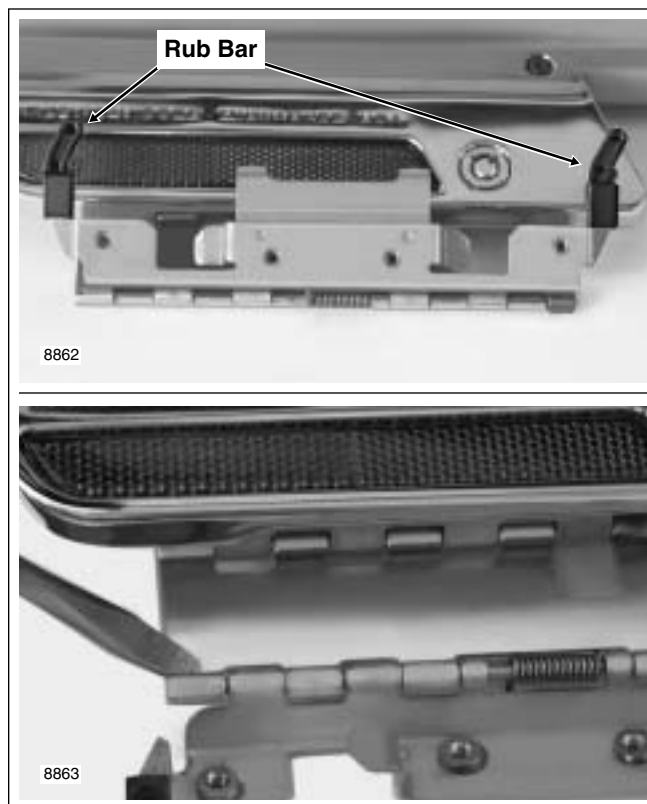

Figure 1. Lid Right Side Up With Latch on Near Side
8. Raise latch slightly and rotate hinge on inboard side so that it is topside with the two plastic rub bars pointed upward. See upper frame of Figure 1.
9. Rotate rub bar section of hinge to expose hinge pin and spring. Using a flat tip screwdriver, carefully bend crimped end link outward. See lower frame of Figure 1.
3. Reposition lid so that it is right side up with latch closest to you. As before, raise latch slightly and rotate hinge on inboard side so that it is topside with plastic rub bars pointing upward. Now rotate rub bar section of hinge to expose hinge pin and spring. See Figure 1.